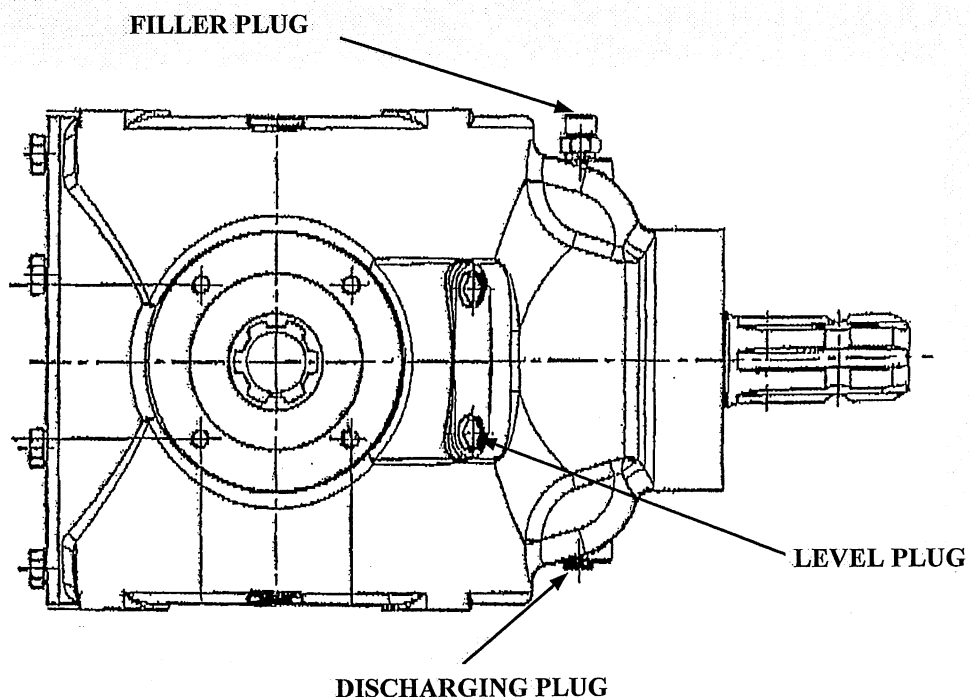

FIG. 2
- Check the oil level of the central transmission gearbox. To carry out this operation, unscrew the level plug (see fig.2) and control that the oil leaks out. If needed to add oil, unscrew the filler plug located on top of the box and fill in the oil until it leaks out through the level hole.
In the case the machine has done its first 100 hours, it is necessary to completely change the oil from the gearbox of the central transmission and the gearboxes of the two lateral transmissions (see fig. 2 and 3). For each of the three boxes, this operation is carried out by unloading all the oil through the unloading hole located on the lower part of each box, and filling in with new oil through the filler hole. This substitution is necessary because the gears are new and so are subject to quicker worn. Use oil: SAE 80 W 90 API GL 4.